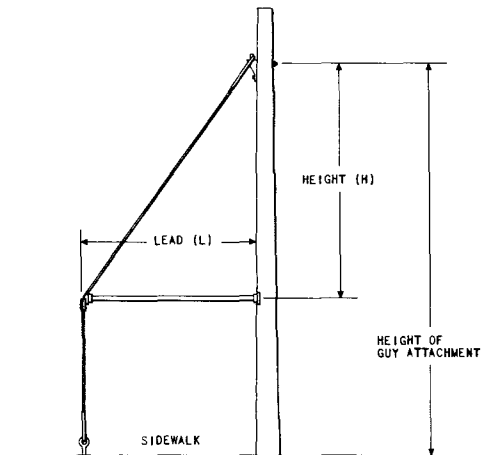

Fig. 1—Sidewalk Anchor
1.04 For determining the *lead* and *height* of a sidewalk anchor, refer to Fig. 1.